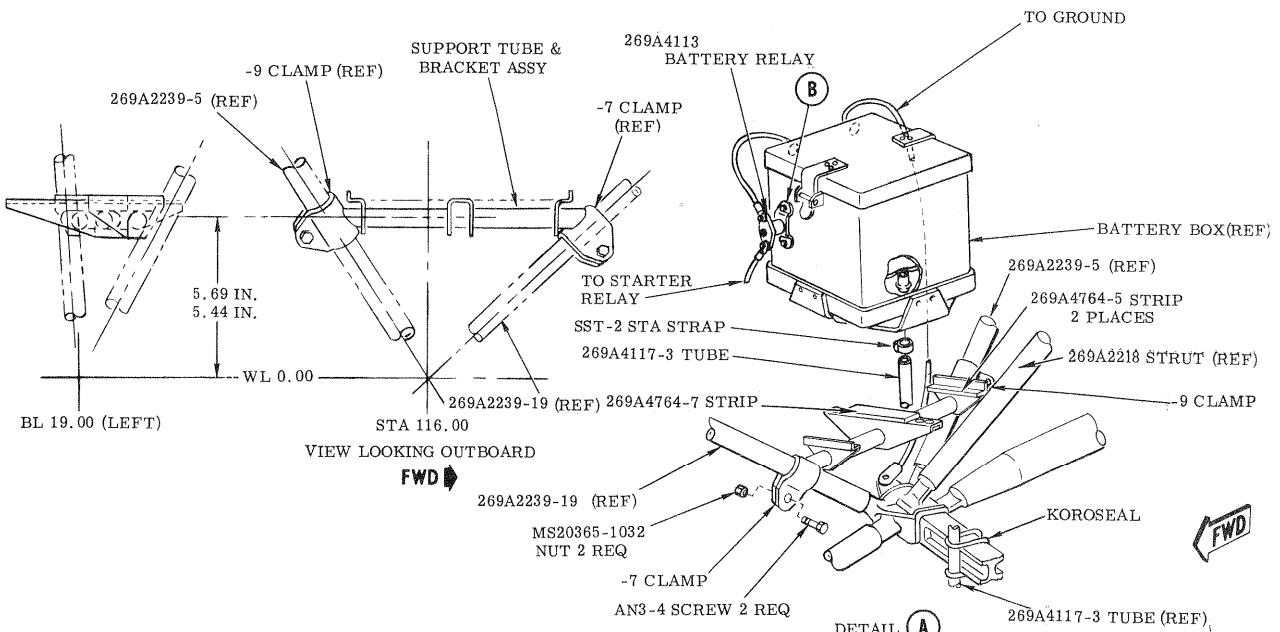

Figure 1. Alternate Battery Location
- e. Position 269A4902-3 support tube and bracket assembly on center frame support struts, using -7 and -9 clamps as shown in Figure 1; secure clamps with hardware as shown. Relieve side of -9 clamp as necessary to clear 269A2218 strut on installation.